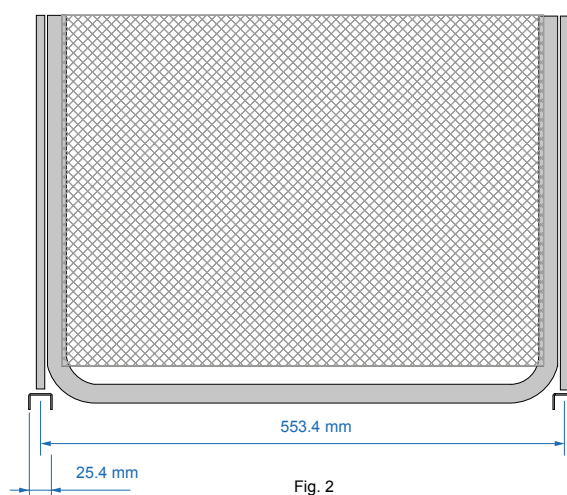

Fig. 2
- The distance for the installation of articles with a width of 550 mm should be 553.4 mm (axis to axis, Fig. 2).